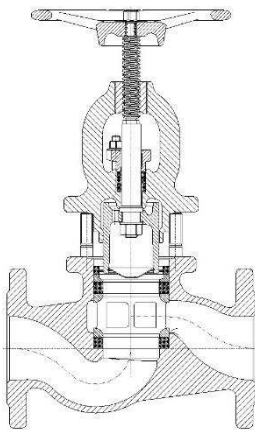

Figure 1
- » Now slightly twist the bonnet (Pos. 2) so that the bonnet flange is braced on the stud bolt faces (Pos. 25). Rotate the handwheel counterclockwise (opening direction), until the piston (Pos. 4) is fully pulled out of the upper valve ring (Pos. 14) (see Figure 1)
- » Subsequently lightly turn bonnet (Pos. 2) out of position, so that the bonnet flange can rest on the stud bolt faces (Pos. 25). Turn the handwheel counterclockwise (opening direction) until the piston (Pos. 4) is fully pulled out of the upper valve ring (Pos. 14) (see Fig. 1)